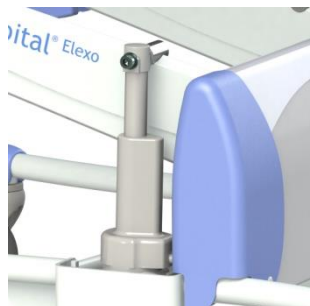

Figure 1 Screw actuator
- Check whether the bolts of the actuator are securely fitted, both at the top and at the bottom. (See figure 1 and 2) _____